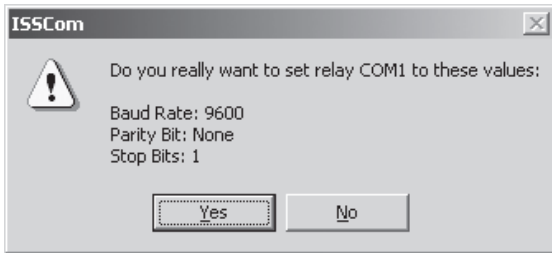

Figure 4-10 COM Port Setting Verification Screen
9. Select **Yes**, ISScom® will display the COM Port Setting Verification screen (Figure 4-10).